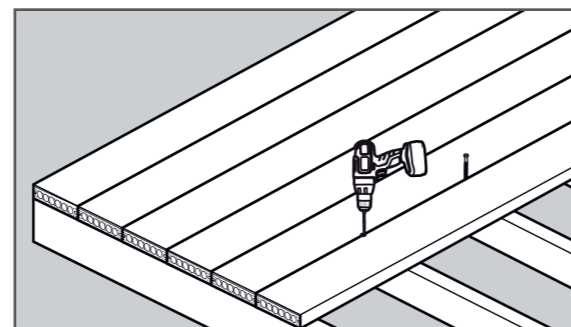

FIG. 5
- 3 Use a drill to fix the screws in each **T-Clip**, ensuring not to over-tighten (fig. 5)